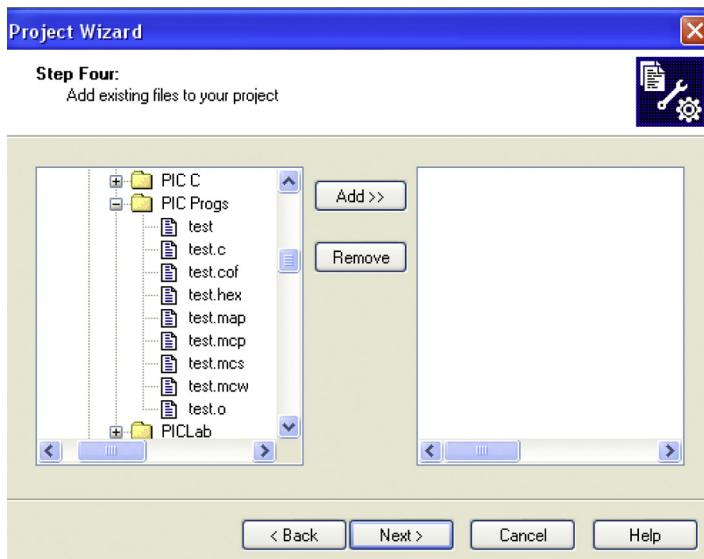

FIGURE 2.12 Adding a file to your project.
Step 4: add existing files to your project (Figure 2.12).